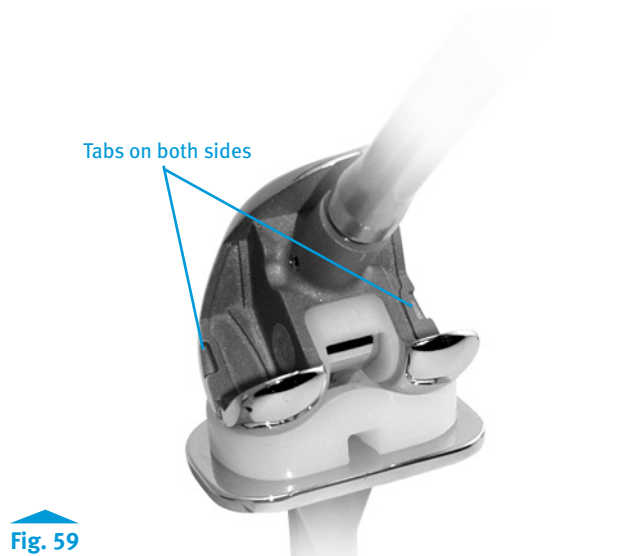

Fig. 59
- Ensure that all cement is removed from the tabs on the femoral component where the Spanner Wrench will be attached (Fig. 59).